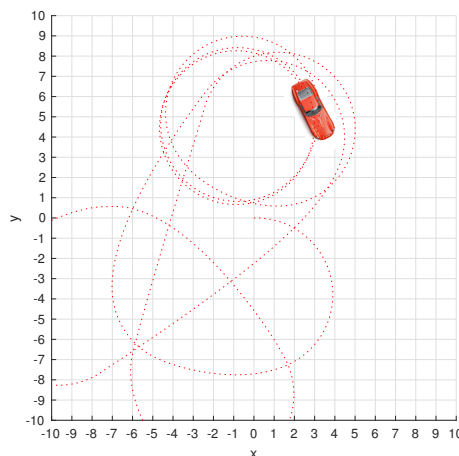

Figure 1.2: Car animation drawn with `demos/car_anim` using `plot_vehicle`
- Added the ability to animate a picture of a vehicle to `plot_vehicle`, see `demos/car_demo` and Figure 1.2. Also added a 'trail' feature, and updated documentation.